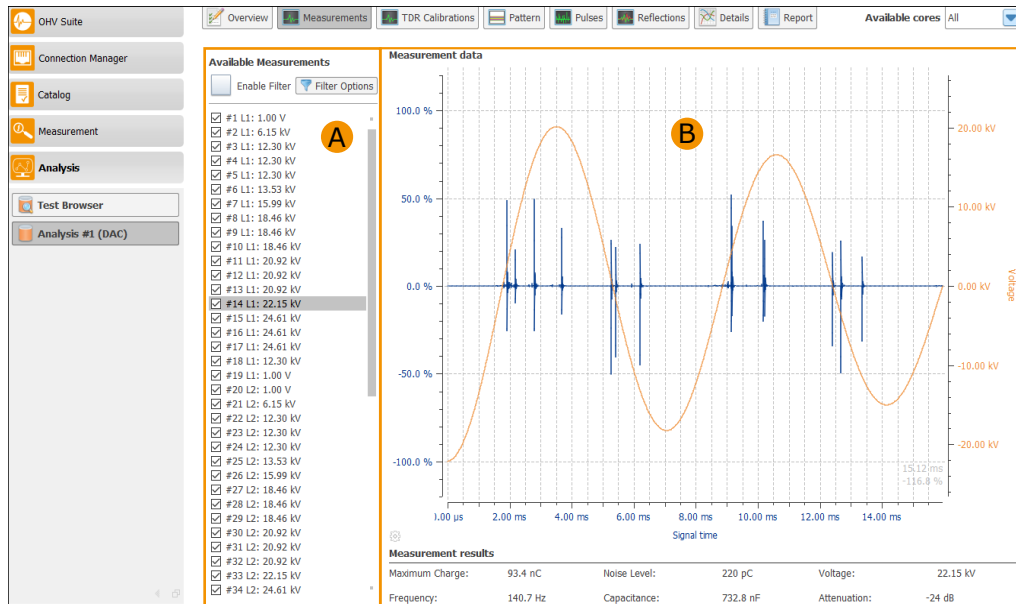

Figure 8.7: DAC Measurement
The individual shots (A cf. Figure 8.7) can be selected in the measurement overview. In the right pane (B) the measurement data of the selected shot are then displayed. The lower range of B represents the calculated values as well as the used attenuation of the selected shot.